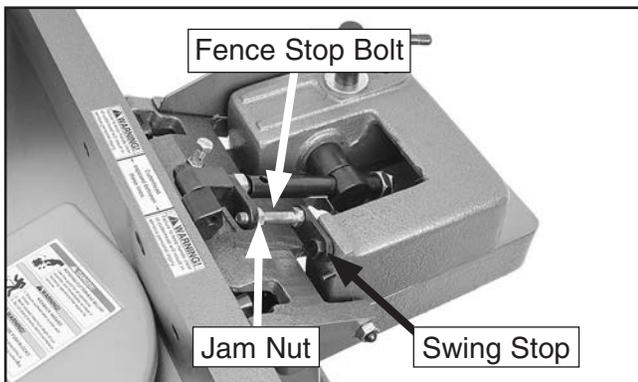

Figure 54. 90° swing stop engaged.
3. Flip 90° swing stop into position shown in **Figure 54**.
4. Loosen jam nut on 90° fence stop bolt (see **Figure 54**).